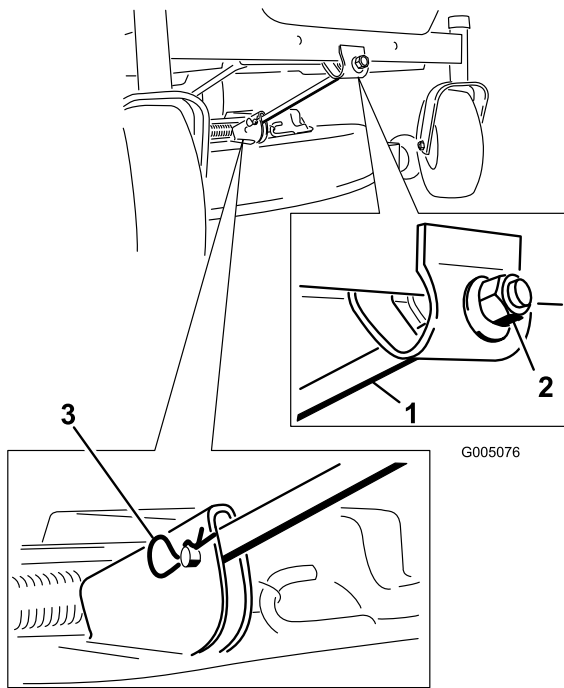

Figure 56
4. Remove the hairpin cotter and clevis pin from the front support rod (Figure 56). Carefully lower the front of the mower deck to the ground.
- Attach the front support rod to the mower deck with the clevis pin and hairpin cotter (Figure 56).